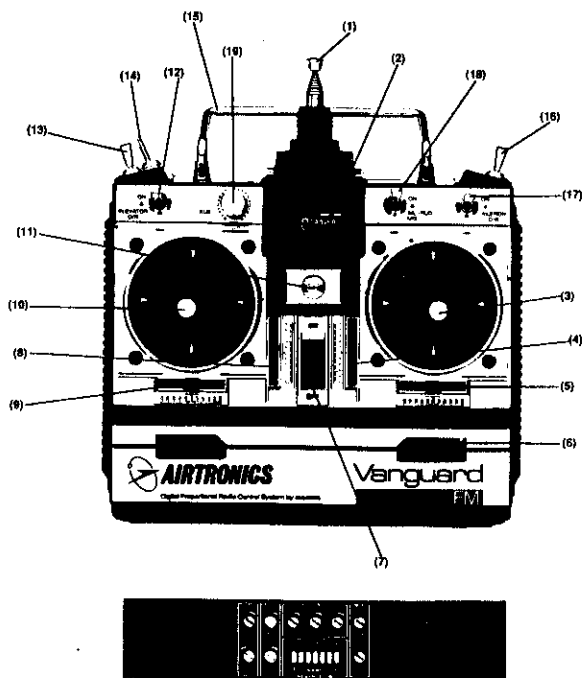

FIGURE 1
The VANGUARD 7P Transmitter is equipped with Dual Rate functions on ailerons (17) and elevator (12) channels (see Figure 1). The amount of normal control action to a maximum 90 degrees of servo rotation is set with the associated "D/R" adj. trimmers on the panel (Figure 4). The use of low rate on these primary flight controls will generally help in flying smoother maneuvers, since it will reduce the servo throw even when the control sticks are moved to their maximum position. Use a small screwdriver when adjusting the dual rate trimmers on the panel. Be careful not to apply a tremendous amount of pressure to the trimmer since it should turn easily.
The VANGUARD 7P transmitter provides Flap-Elevator mixing which allows the elevator servo to move to a pre-set position whenever the flaps are lowered thus compensating for any pitch changes induced by the flaps. When the Flap switch, Figure 1, is in the "OFF" position the Flap Elevator (F→E) mix trimmer under the front panel is inoperative. When the Flap switch is moved to either position I or II you can adjust the F→E trimmer for the amount of compensation desired. Maximum elevator compensation will occur with the trimmer either fully clockwise (CW) or counter clockwise (CCW). For safety, if you do not desire to have any compensation, we recommend the F→E trimmer be centered so that inadvertent movement of the Flap switch will not cause any elevator servo movement.